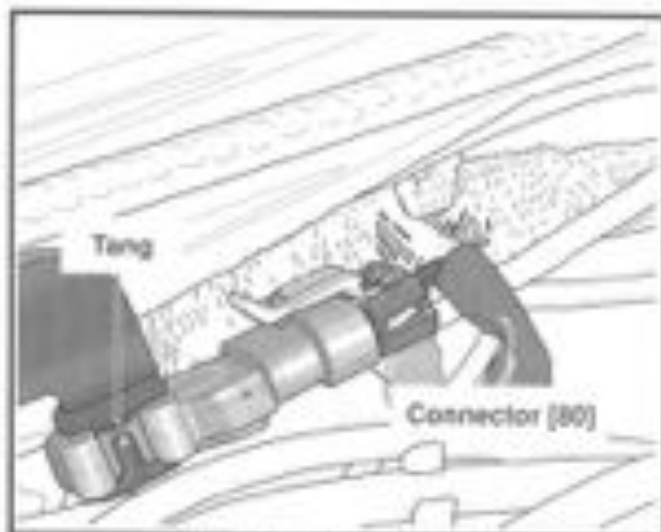

Figure 7-28. MAP Sensor
4. See Figure 7-28. Using appropriate tool gently release tang folding sensor - Push sensor down.